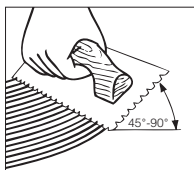

Figure 7
- Hold trowel at a minimum 45° angle (Figure 7) firmly against the subfloor to obtain a 50–60 ft.² (4–5.5 m²) per gallon spread rate. The trowel will leave ridges of adhesive and very little adhesive between the ridges. This will allow you to still see the chalk lines between the ridges and provide the recommended spread rate.